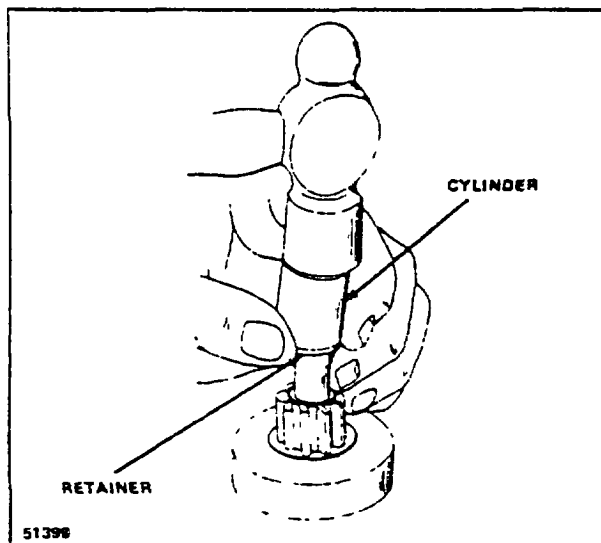

Figure 3-4. Removing Retainer from Snap Ring
7. Remove the pinion from the armature by sliding a metal cylinder onto the shaft. Using a hammer, strike the metal cylinder against the retainer, driving the retainer toward the armature core and off the snap ring. Refer to Figure 3-4.